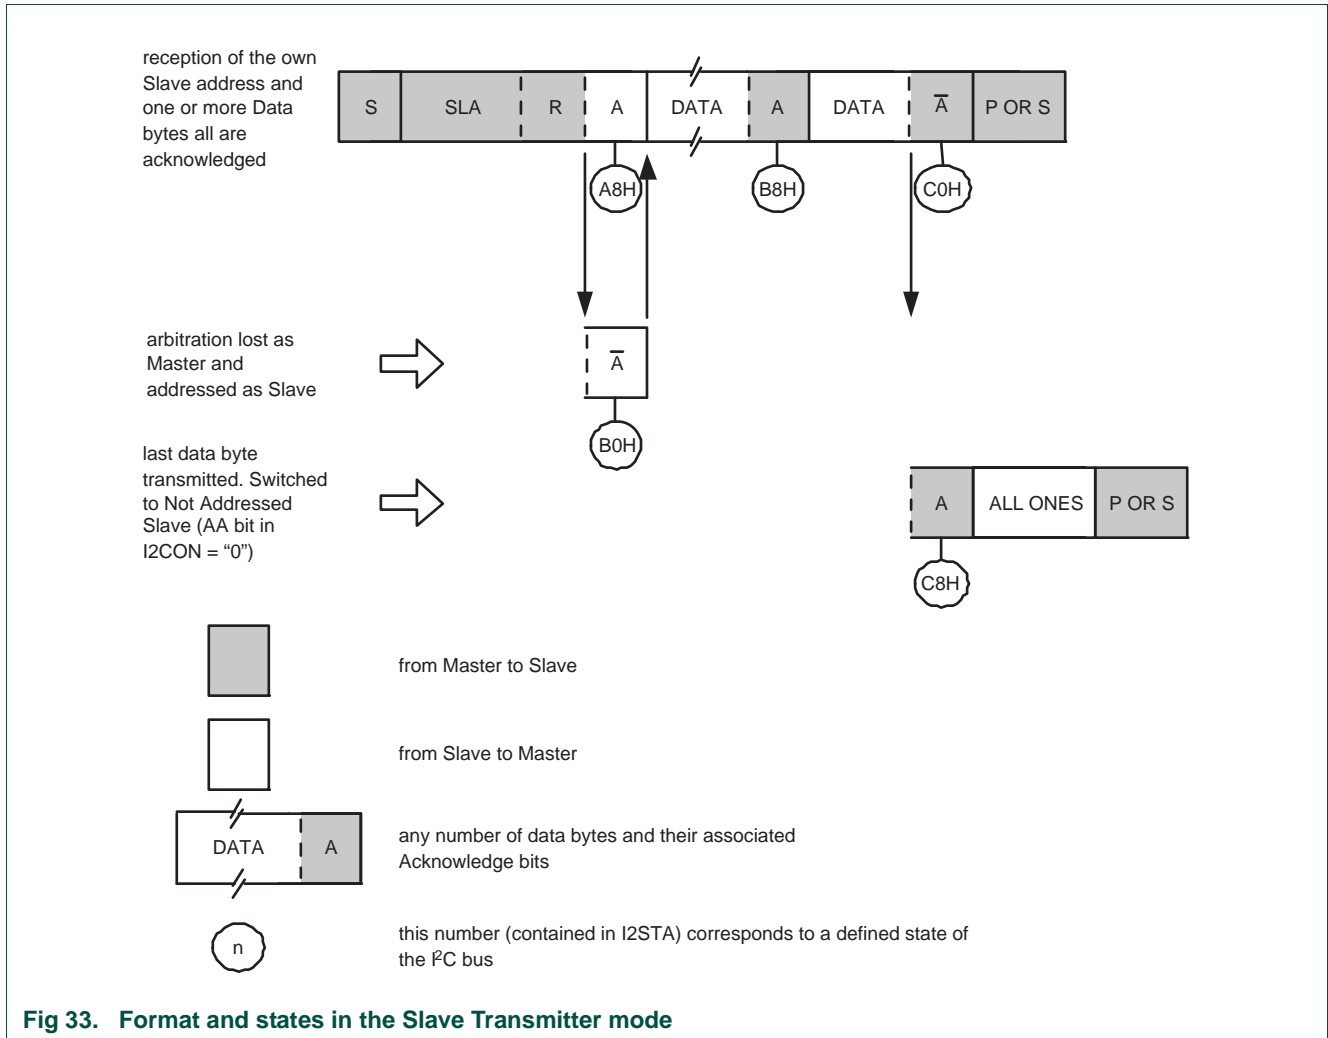

Fig 33. Format and states in the Slave Transmitter mode
In the slave transmitter mode, a number of data bytes are transmitted to a master receiver (see Figure 33). Data transfer is initialized as in the slave receiver mode. When I2ADR and I2CON have been initialized, the I2C block waits until it is addressed by its own slave address followed by the data direction bit which must be “1” (R) for the I2C block to operate in the slave transmitter mode. After its own slave address and the R bit have been received, the serial interrupt flag (SI) is set and a valid status code can be read from I2STAT. This status code is used to vector to a state service routine, and the appropriate action to be taken for each of these status codes is detailed in Table 231. The slave transmitter mode may also be entered if arbitration is lost while the I2C block is in the master mode (see state 0xB0).